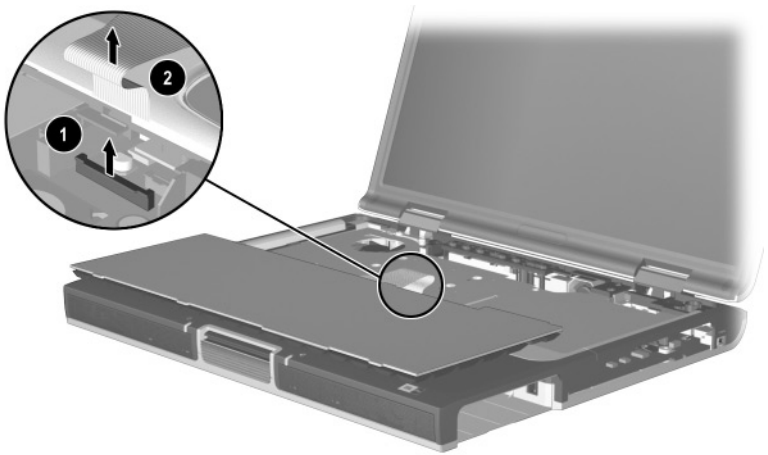

Figure 5-19. Disconnecting the Keyboard Cable
4. Release the ZIF connector ❶ to which the keyboard cable is connected and disconnect the keyboard cable ❷ from the system board (Figure 5-19).